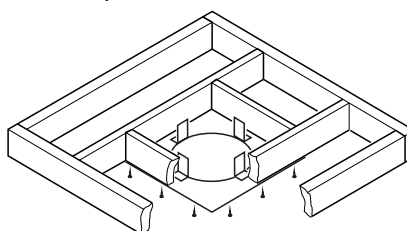

Figure 31 - Installing Firestop
For two-story applications, firestops are required at each floor level. If an offset is needed in the attic, additional pipe and elbows will be required (see Figure 31, page 15).
- Cut a 10" square hole in the ceiling using the locating hole as a center point. The opening should be framed to 10"x10" (254mm x 254mm) inside dimensions, as shown in Figure 22 on page 12 using framing lumber the same size as the ceiling joists. If the area above the ceiling is an insulated ceiling or a room, nail firestop from the top side. This prevents loose insulation from falling into the required clearance space. Otherwise, install firestop below the framed hole. The firestop should be installed with no less than three nails per side (see Figure 31, page 15).